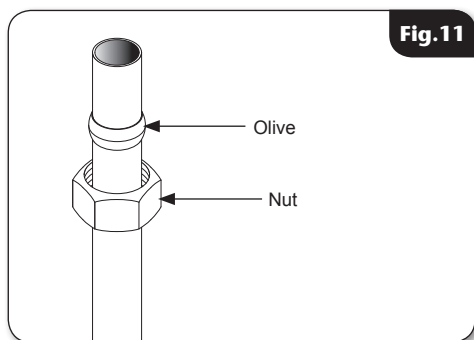

Fig. 11
- Fit the nut and olive onto the pipework (fig.11) and connect the mains water pipe fitting to the inlet of the shower.